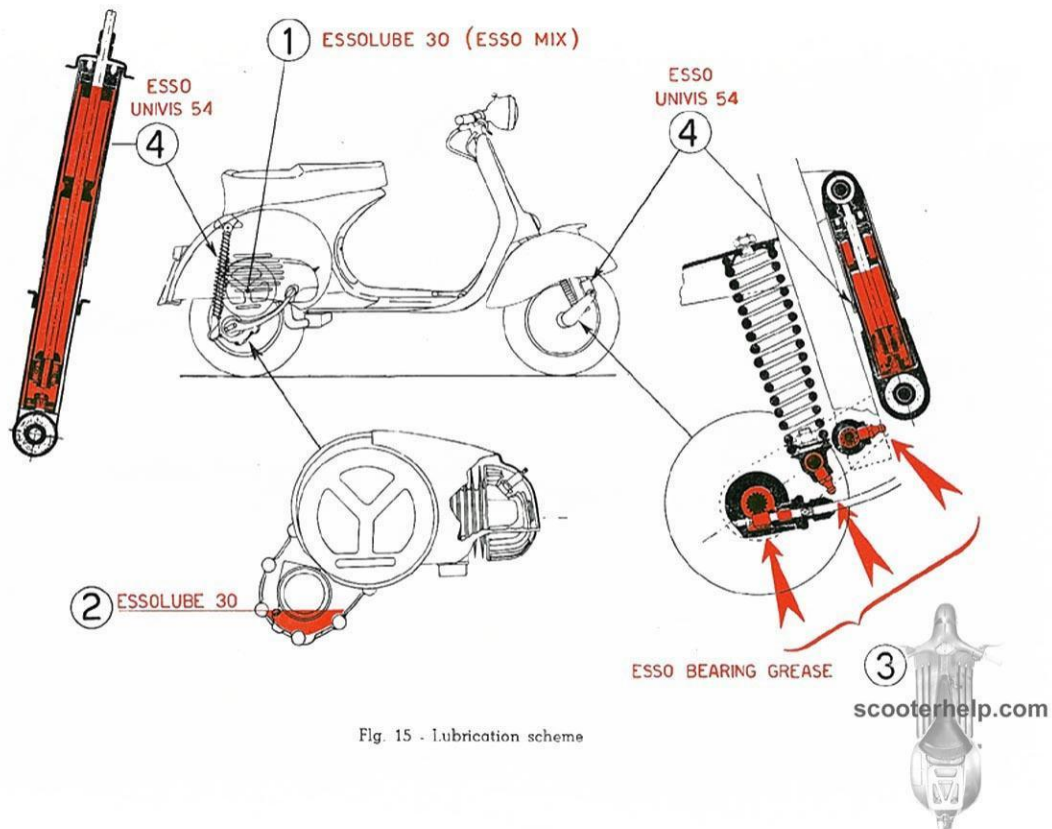

Fig. 15 - Lubrication scheme
N. B. - Lubricate exclusively with oil and grease types as indicated on lubrication chart, page 22, and Fig. 15.